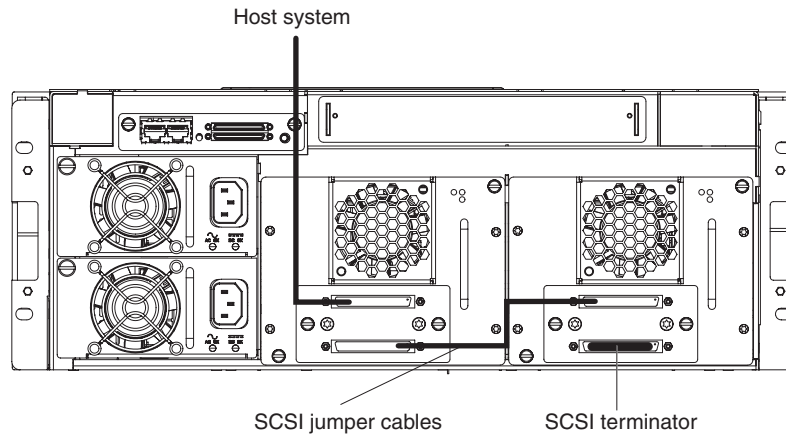

Figure 11. Installing the SCSI host interface cables
15. Install the SCSI cables as shown in Figure 11 on page 13.